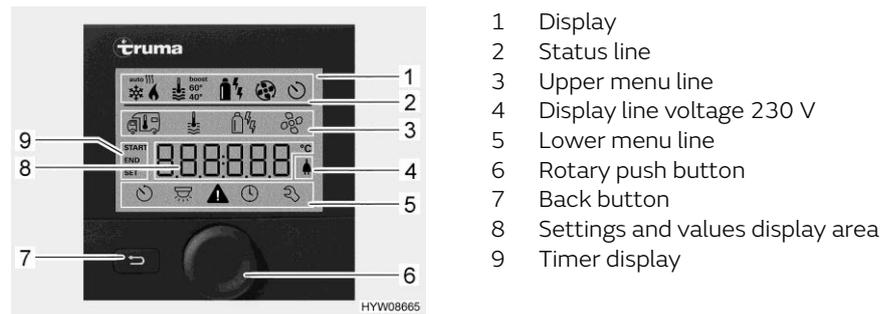
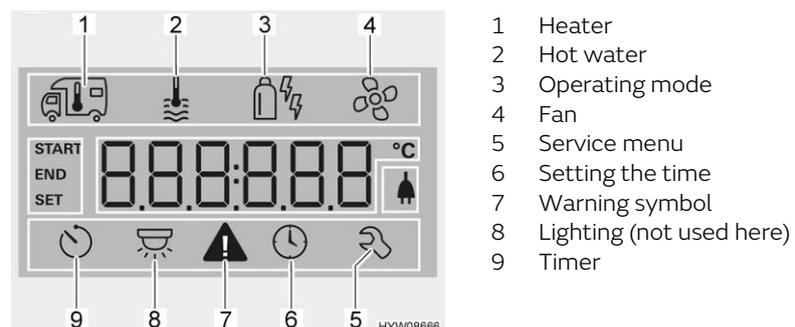

Fig. 116 Operating unit with displays
Fig. 117 Display (operating unit)
- Status line (Fig. 116,2)
- Upper menu line (Fig. 116,3)
- Display area (Fig. 116,8)
- Lower menu line (Fig. 116,5)
- Press and hold the rotary push button (Fig. 116,6) for approx. 3 seconds. Both menu lines (Fig. 116,3 and Fig. 116,5) are displayed. The first symbol flashes.
- Turn rotary push button (Fig. 116,6) until the required menu symbol flashes.
- Press rotary push button to save the value set. If you do not wish to change the value originally set: Press back button (Fig. 116,7).
- Turn rotary push button (Fig. 116,6) until the heater menu symbol (Fig. 117,1) flashes.
- Press rotary push button to save the value set. The symbol in the status line (Fig. 116,2) flashes until the room temperature set is reached. If you do not wish to change the value originally set: Press back button (Fig. 116,7).
- Turn rotary push button (Fig. 116,6) until the hot water menu symbol (Fig. 117,2) flashes.
- Press rotary push button to save the value set. The symbol in the status line (Fig. 116,2) flashes until the hot water temperature set is reached. If you do not wish to change the value originally set: Press back button (Fig. 116,7).
- Turn rotary push button (Fig. 116,6) until the menu symbol operating mode (Fig. 117,3) flashes.
- Press the rotary push button to save the set operating mode. To revert to the original setting: Press back button (Fig. 116,7).
- Turn rotary push button (Fig. 116,6) until the fan menu symbol (Fig. 117,4) flashes.
- Turn rotary push button (Fig. 116,6) until the timer menu symbol (Fig. 117,9) flashes.
- Press rotary push button. The timer is activated. The timer symbol (Fig. 117,9) flashes when the timer is programmed and active.
Fault display The warning symbol (Fig. 117,7) flashes in the event of a warning. The heater continues to operate. In the event of only a temporary fault, the warning symbol goes out automatically.